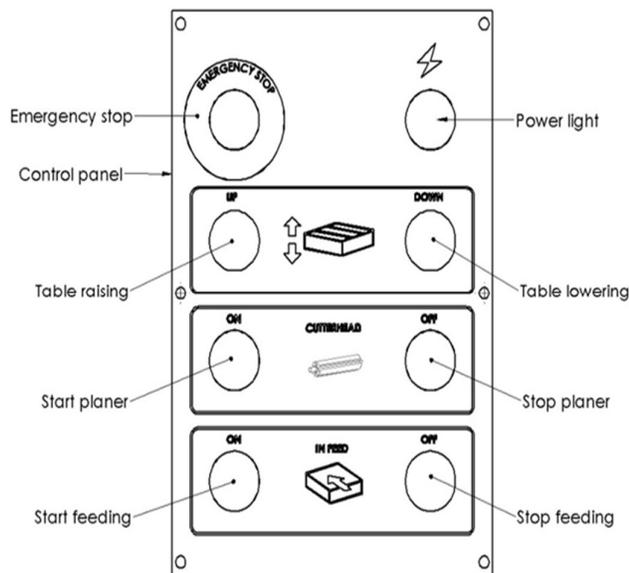
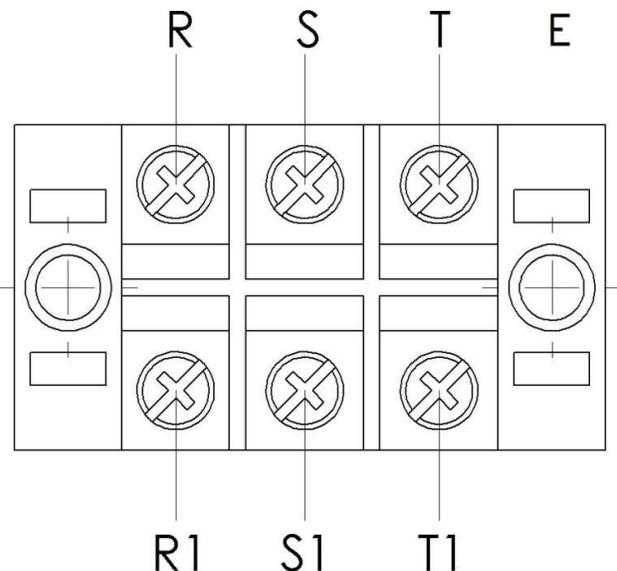

Fig. 2
Fig. 3
4. Please refer to Fig. 2, Fig. 3 of Control Panel and Connections To Power source.